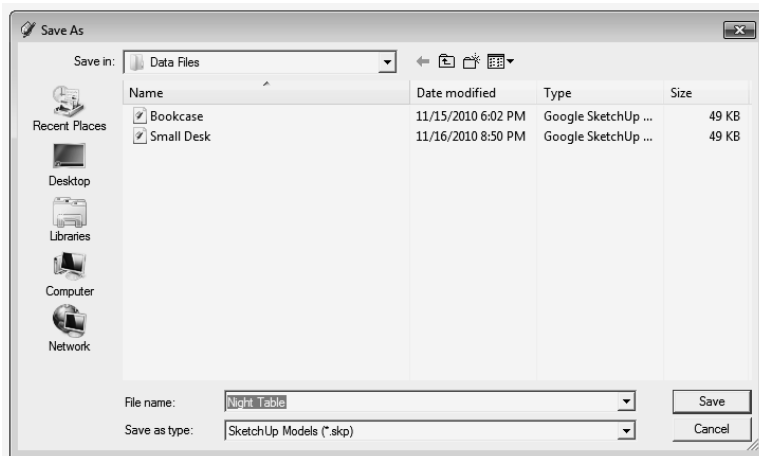

FIGURE 4-2.7 SaveAs dialog
22. Type **Night Table** for the *File name* and click **Save** (Figure 4-2.7).